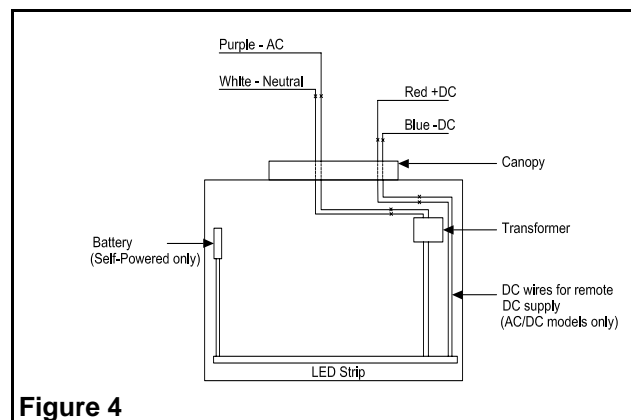

**Figure 3**
- b. Remove the backplate(9) from the packaging. Determine the proper knockouts to remove for mounting to the junction box (see fig.3).